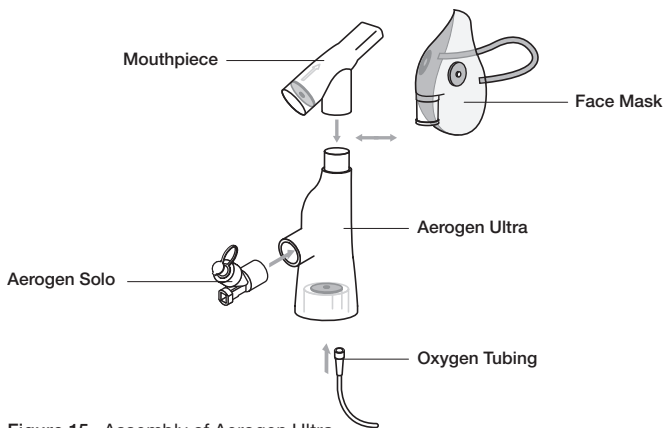

Figure 15. Assembly of Aerogen Ultra
1. Insert the Aerogen Solo nebuliser firmly into the Aerogen Ultra in orientation shown in Figure 15.